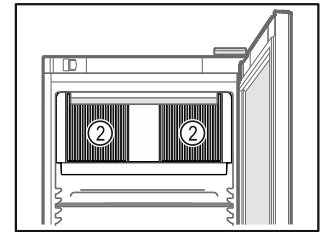

Fig. 76
- ❑ Ventilation slots Fig. 76 (2) for recirculation fan in the interior must be kept clear.